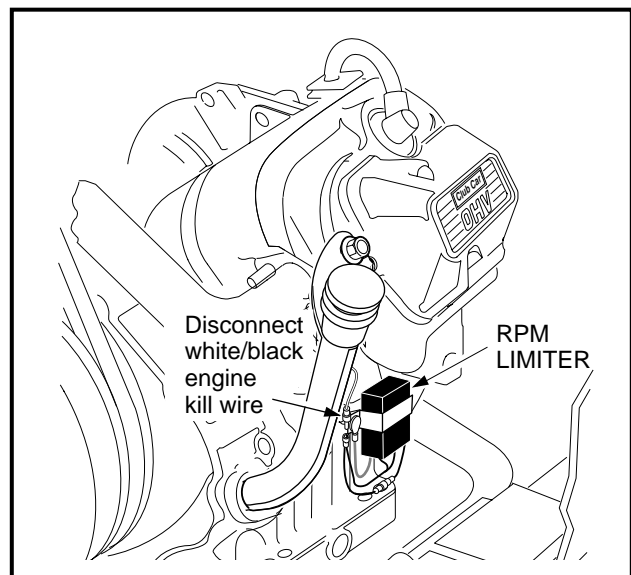

Figure 11-39 Disconnect White/Black Engine Kill Wire
2. Disconnect the engine-kill white/black wire at the bullet connector located next to the RPM limiter (**Figure 11-39, Page 11-33**).
2. Disconnect white/black wire bullet connector located at the engine RPM limiter (**Figure 11-39, Page 11-33**).